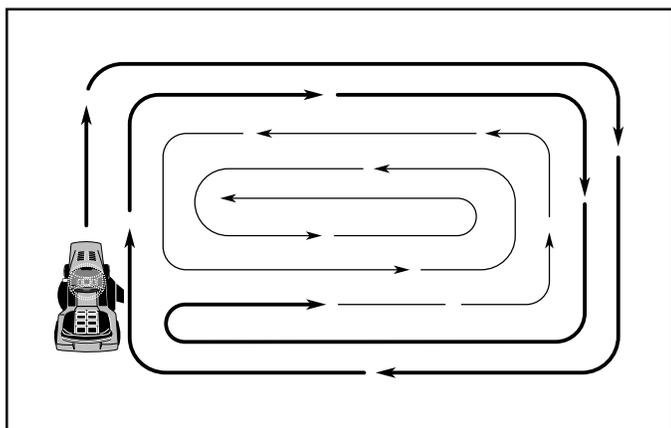

FIG. 14
- When mowing large areas, start by turning to the right so that clippings will discharge away from shrubs, fences, driveways, etc. After one or two rounds, mow in the opposite direction making left hand turns until finished (See Fig.14).